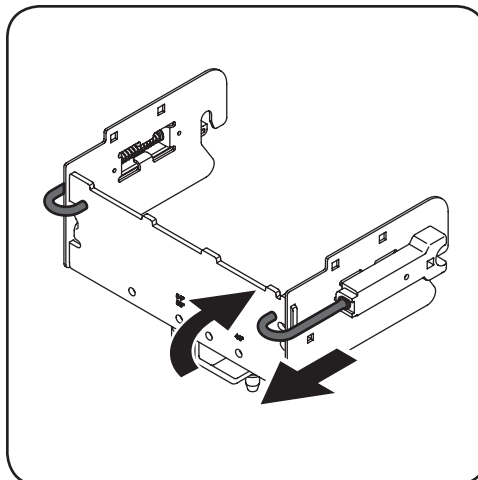

Figure 1-4
2. Pull back j-pins and lock open by twisting them inward slightly and letting them rest on the back of the rear support bracket. See Figure 1-4.